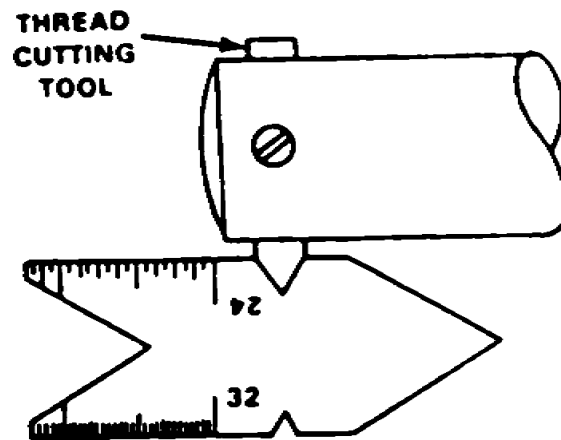

FIGURE 57. USING CENTER GAGE
- a. Center gages check the angle of thread cutting tools, Figure 57. The gage is also used to check cut threads and the scales are used to measure the number of threads per inch.